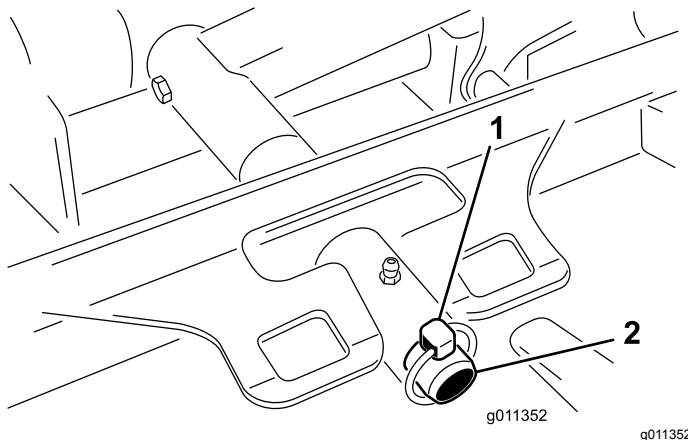

Figure 56
3. Remove the lynch pin or retaining nut (GM 4700 only) securing the deck carrier frame to the lift arm pivot pin (Figure 56).
3. Slide deck carrier frame onto lift arm pivot pin. Secure with lynch pin or retaining nut (GM 4700 only) (Figure 56).